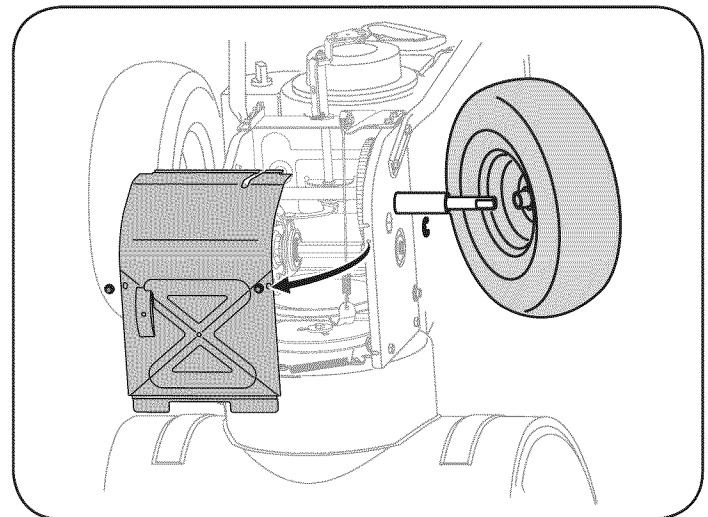

Figure 29
5. Remove the right-hand wheel by removing the screw and bell washer which secure it to the axle. See Figure 29.